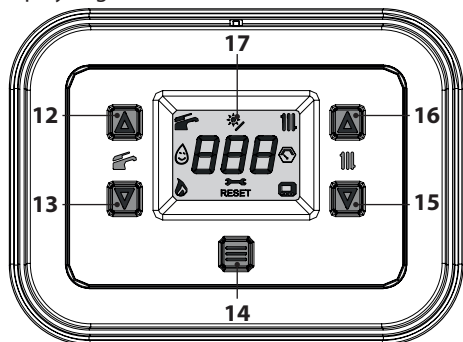

Figure 6.6
- Press button 14 for 5 seconds until both symbols  and  appear on the display (Figure 6.6).
- Turn off the boiler by pressing button 14 (Figure 6.6) for 5 seconds until the symbol — — — appears on the display (the dashes light up in sequence to simulate a scrolling motion) (Figure 6.5).